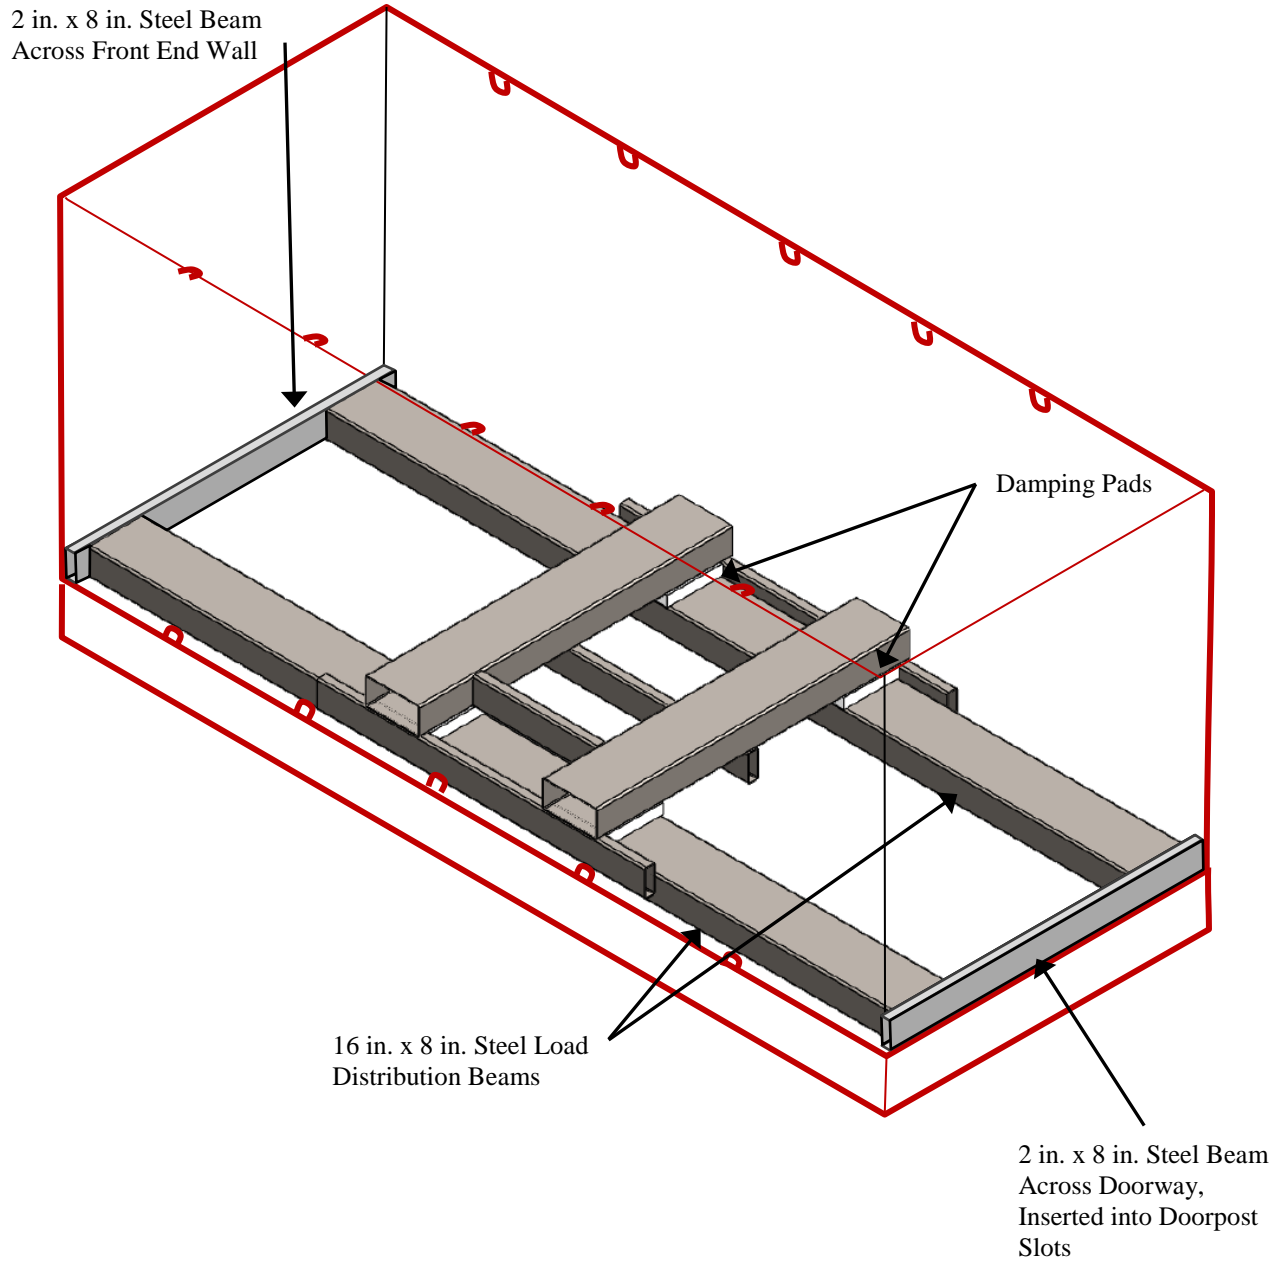

Figure 2: Gearbox Sled with Runners Outboard of Distribution Beams
3. Prior to loading, a 2 in. x 8 in. x 95 in. long steel beam with a 0.125 in. wall thickness is installed across the front end wall of the container. Two 16 in. x 8 in. x 0.25 in. (minimum) rectangular steel load distribution beams, 19 ft. long, are installed, one on either sidewall of the container. Alternately, wood beams of the same dimension may be substituted (as tested). See Figure 2.